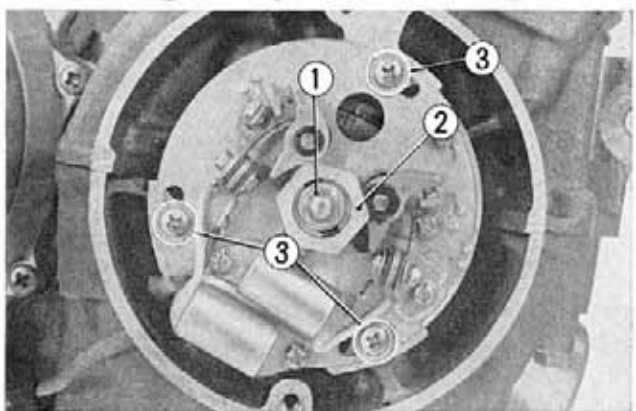

Fig. 3-71 ① 6 mm hex. nut
6. Remove the point cover and unscrew the 6 mm hex nut and remove the advancer shaft special washer. (Fig. 3-71)
7. Unscrew the three contact breaker assembly mounting screws and remove the contact breaker (Fig. 3-71).